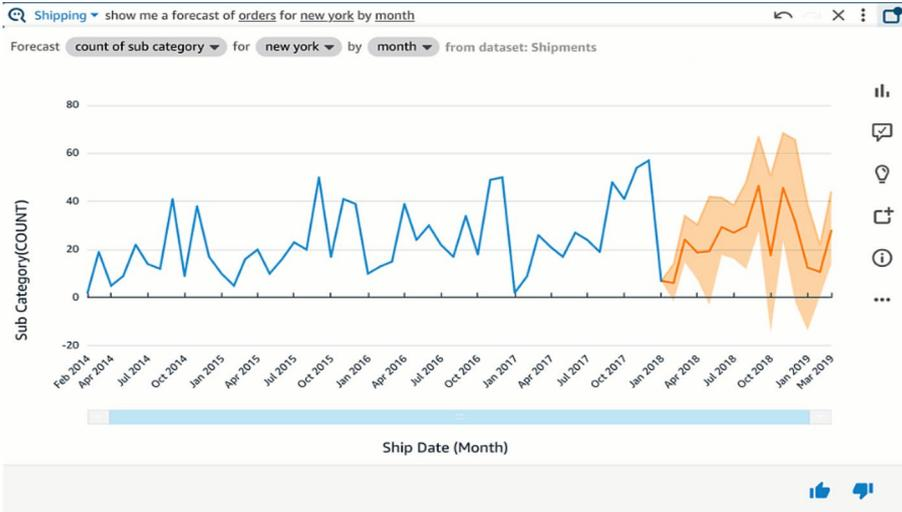

Figure 6-40. Forecasting abilities in Amazon QuickSight
- **Forecast:** Users can visualize future trends and trajectories for up to three measures simultaneously, enabling proactive decision-making based on predictive insights. Figure 6-40 shows an example.